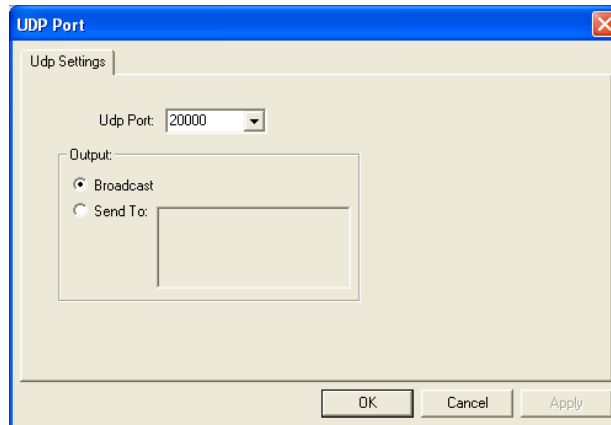

Figure 10: *UDP Port Settings*
5. In the *UDP Port* window (*Figure 10*):